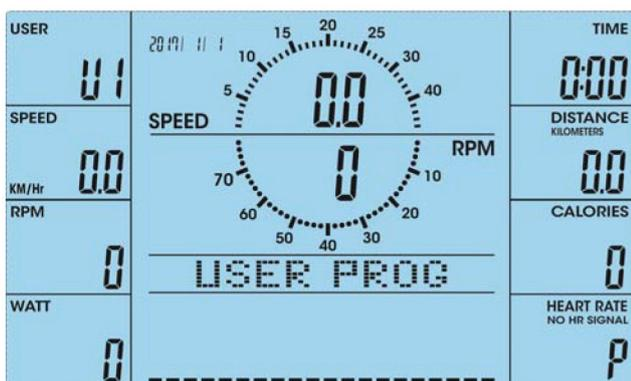
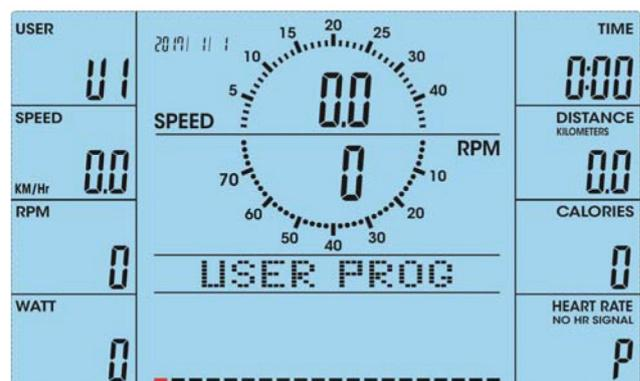
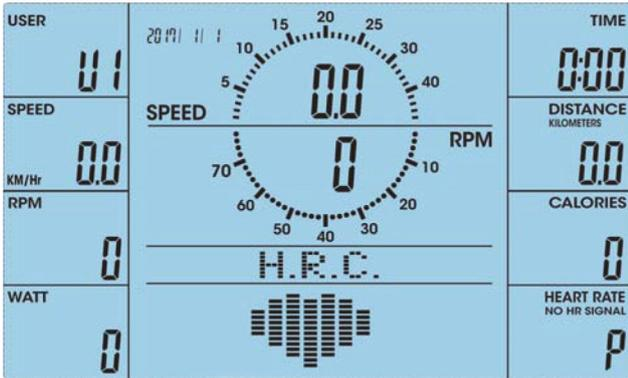

Fig. 32
Fig. 33
Fig. 38
1. Enter the USER PROG (PROGRAM mode, fig. 32).
*When you entered the USER PROG (PROGRAM mode, fig. 32) the first section blinks (fig. 33).*
1. In the H.R.C. mode (fig. 38), the screen displays 55%, 75%, 90%, and TARGET (fig. 32 to 35). Choose the preferred heart rate with the UP/DOWN buttons.